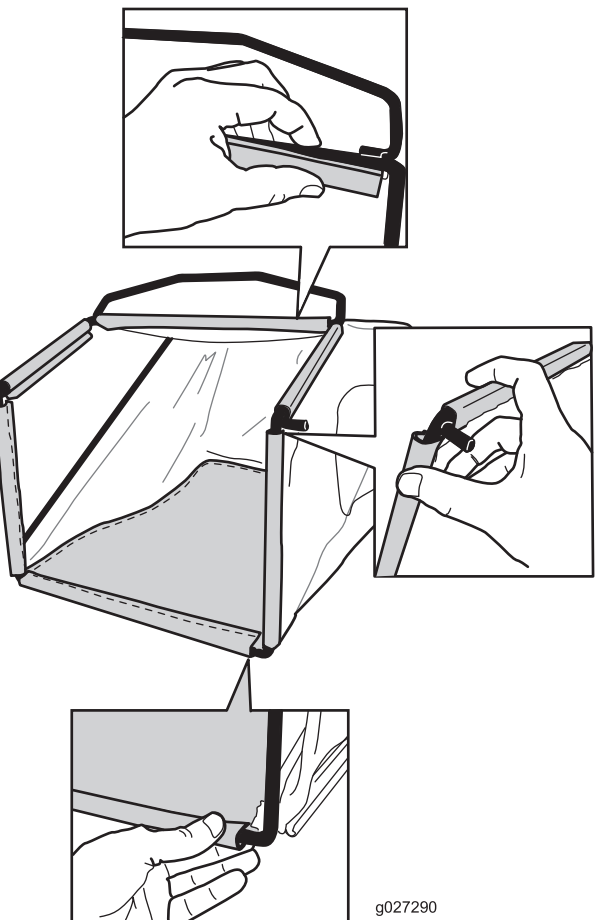

Figure 9
3. Hook the top and side channels of the bag onto the top and sides of the frame, respectively (Figure 9).